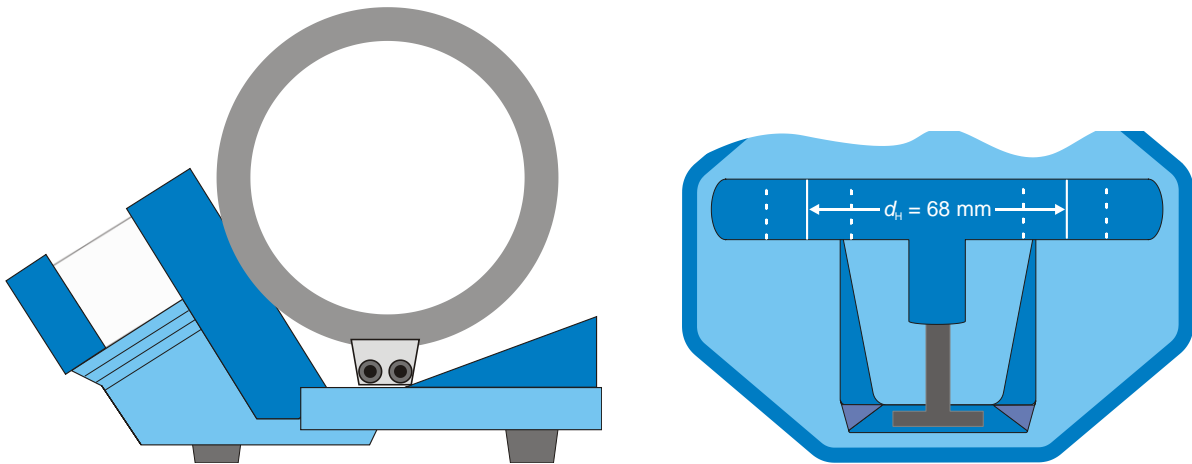

Fig. 1 Setting up the coils for a transverse field
- For Helmholtz configuration  $d = r$  the outer edges of the coil base should be flush with the dashed lines (refer to Fig. 1).